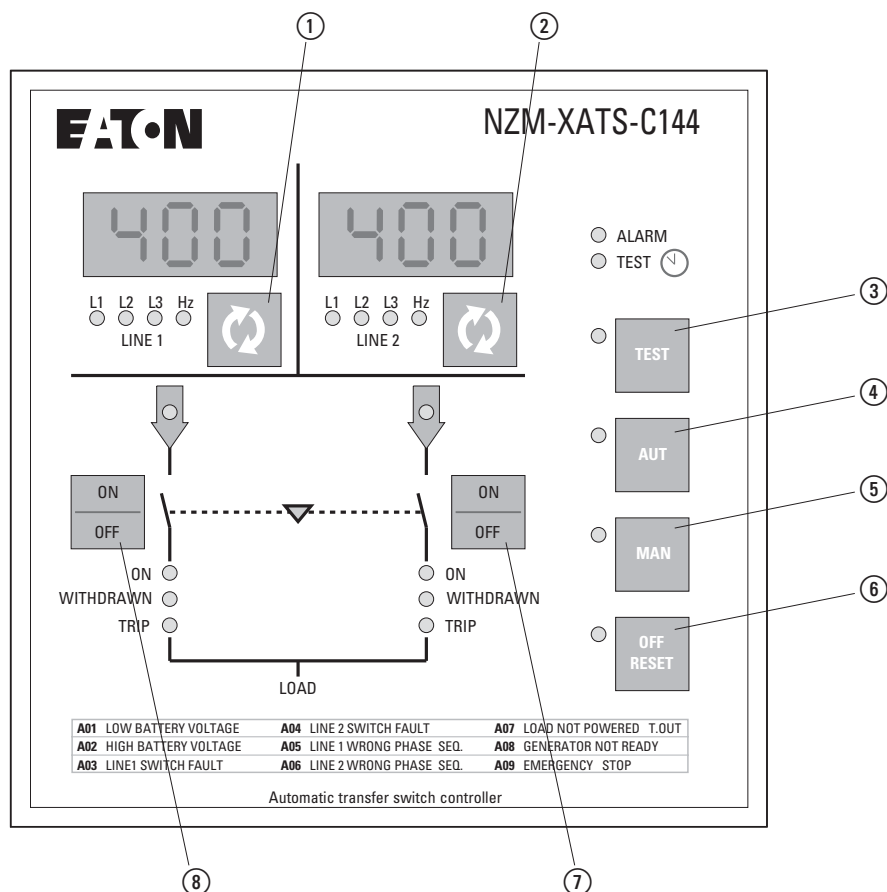

Figure 3: Keypad, pushbuttons
- ▶ To view the measurements for each line in succession, repeatedly press the right key under each display (① and ②, → Figure 3).
In MAN mode you can control the switching devices manually by pressing keys (⑦) and (⑧), → Figure 3, Page 8) for at least 300 ms.